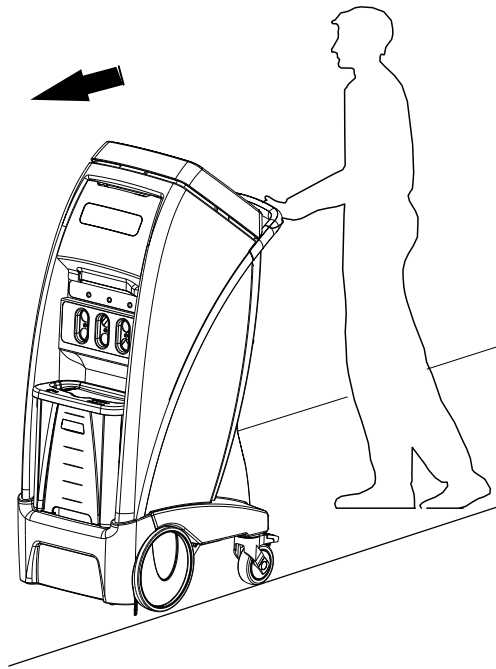

Figure 24 – Transport position
3. Make sure to place the product with the ports facing the front (Figure 24).